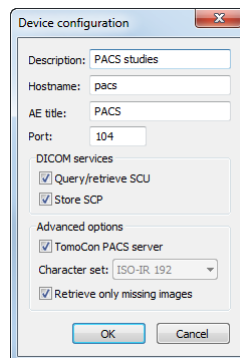

Figure 80 – Device configuration dialog
- To add a new DICOM device as a separate item, push the **Add device** button. The **Device configuration** dialog (Figure 80) is then displayed. Fill in the fields and push the **OK** button to confirm.
- To add a new DICOM device as a part of a defined group, select the group in the list and push the **Add device** button. The **Device configuration** dialog (Figure 80) is then displayed. Fill in the fields and push the **OK** button to confirm.
- To modify a group or a DICOM device, push the **Configure...** button. The **Device configuration** dialog is then displayed in which you can modify the information concerning a group or device (see Figure 80).